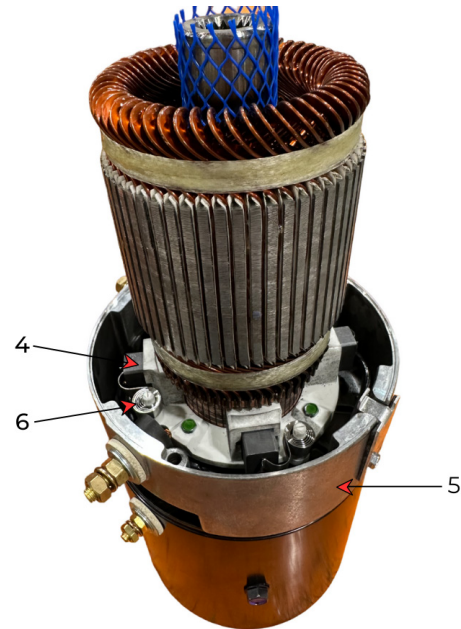

Figure 56. Carbon Brushes Replacement.
3. Locate the carbon brushes (4). This may be as simple as removing the enclosure (5) to find them, or in some other cases just locating two clips (or brushes covers) on the outside of the motor.
5. Remove the spring (6) holding the brush in place.
8. Install the new brush into place and fasten with the spring (6).
11. Reinstall the enclosure (5). It is important to ensure that both A1 and F1 are positioned in parallel. (See Figure 56)
12. Reinstall the DC motor (1) on the differential (3) with the six screws (2).
13. Torque the screws (2) to standard values. The appropriate torque value is 24 ft lbs.
14. Remove the lifting device from the DC motor (1).